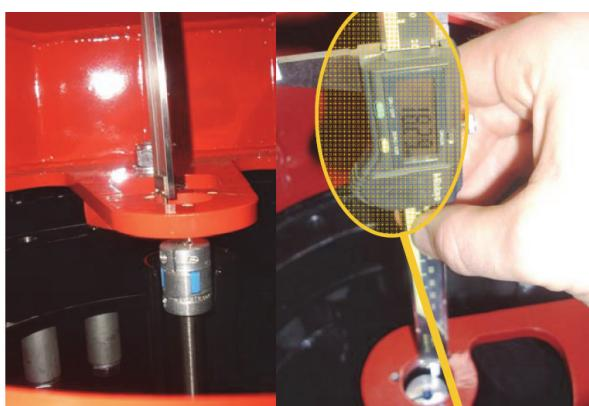

Figure 4-33.
8. Measure with a caliber the distance between the coupling top and the surface of the first boom support where the rotation marker will be mounted. See Figure 4-33.